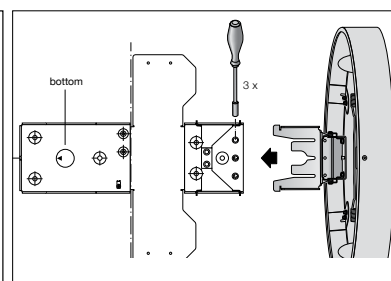

Figure 6: Canopy Closure
9. Pick up the luminaire and insert the hinge laterally to the arrester. [Figure 6]
10. Screw the three hex-nuts sitings above the hinge tightly - torque 3.4 Nm. [Figure 6]